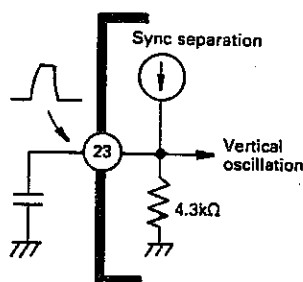

Figure 17.
Fig. 3 shows how the vertical sync separation output is processed. The separation output of pin ②④ is inverted in phase and goes out of pin ②③. Then it is subjected to a filter operation by the external capacitor and internal resistor (4.3 kohms) so that it trigger pulse to initiate the vertical oscillation. (See Fig. 17.)